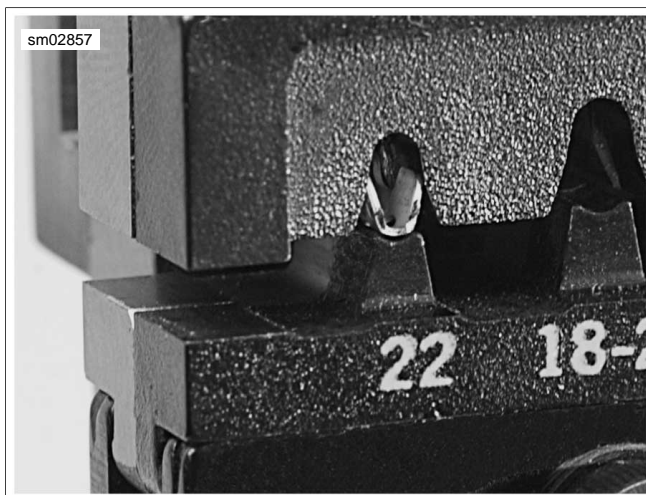

Figure A-31. Crimp Tails in Vertical Alignment between Punch and Die
2. See Figure A-31. Ratchet the handles together until the crimp tails are held in vertical alignment between the punch and the die.